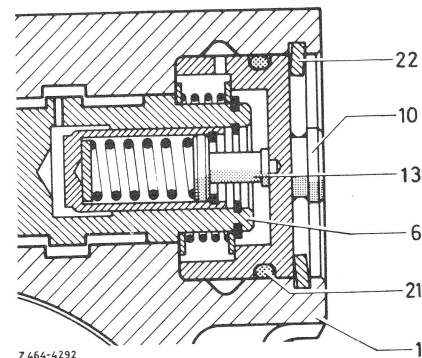

Fig. 23
28 Remove control valve (6) from steering housing (1), making sure that in version 2 the spring bolts and in version 3 the springs will not drop out of control valve (Fig. 23, 24 and 25).